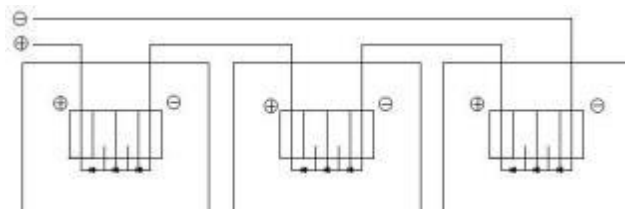
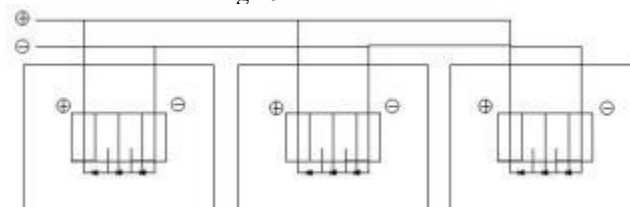

图 6-1 串联增加电压
图 6-2 并联增加电流
- 为了确保系统的正常运行，在将组件连接到电池或者其他组件时，请注意观察电缆线的极性（图 6-1 和 6-2）。如果连接不正确，旁路二极管可能会损坏。
In order to ensure the normal operation of the system, make sure the modules polarity is observed (Fig.6-1 and Fig.6-2) when the modules are connected to the battery or other modules. Reverse polarity might cause damage to the protective diodes.
- 组件串联连接电压累加。从一块组件的正极接线端连接到下一块组件的负极接线端。图 6-1 显示的是组件串联连接。
PV modules can be wired in series to increase voltage. Connect wires from the positive terminal of one module to the negative terminal of the next module. Fig.6-1 shows modules connected in series.
- 组件并联连接电流累加。从一块组件的正极接线端连接到下一块组件的正极接线端。图 6-2 显示的是组件并联连接。
Connect PV modules in parallel to increase current. Connect wires from the positive terminal of one module to the positive terminal on the next module. Fig.6-2 shows modules connected in parallel.
Fig. 6-1 in series to increase
Fig. 6-2 in parallel to increase current